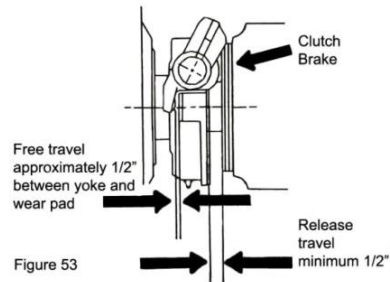

Figure 53
3. There must be 5/8" movement of the clutch release bearing for the clutch to release properly (Figure 53). If these conditions exist, the clutch is properly adjusted. If not, adjustment of the clutch is accomplished by using the adjusting ring (Figure 54). Specific instructions for manual and self-adjusting clutches are as follows: